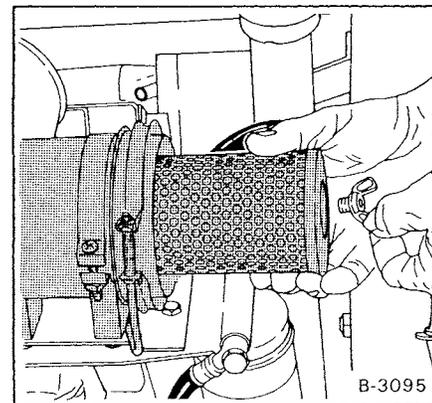
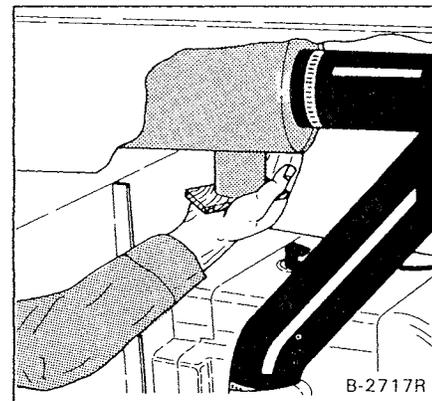
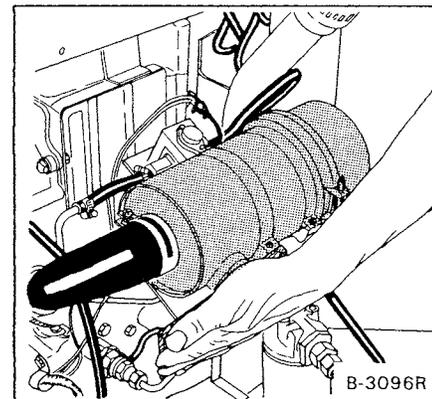

Fig. 1-15 Remove A/C Element (313)
Fig. 1-16 Check Air Cleaner System (310)
Fig. 1-17 Check Air Cleaner System (313)
- (2) Remove the element only when replacement is necessary. Contamination can easily enter the system whenever the element is removed (Fig. 1-14 and Fig. 1-15). Make sure to clean the inside of the container before installing new element. Also check that the gasket is correctly in place and the arrow on the dust cup is up.
- (3) Inspect complete air inlet system and make replacement of any parts with defect.
- (4) Check operating condition of system as follows:
- b. Hold a piece of wood over the inlet pipe of the air cleaner (Fig. 1-16 or Fig. 1-17). The engine must slow down and finally stop.